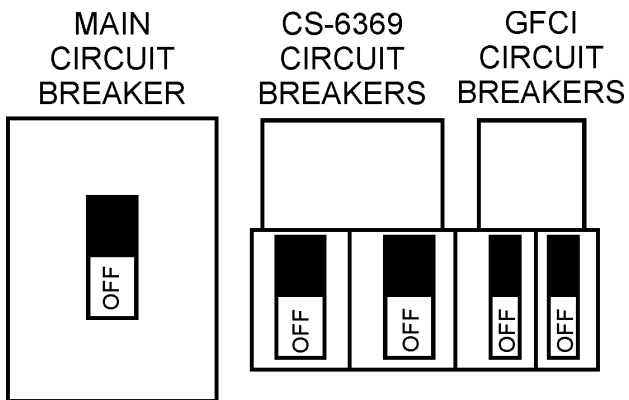

Figure 42. Main, Aux. and GFCI Circuit Breakers (OFF)
1. Place both the **MAIN, GFCI and LOAD** circuit breakers as shown in Figure 42 to the **OFF** position.